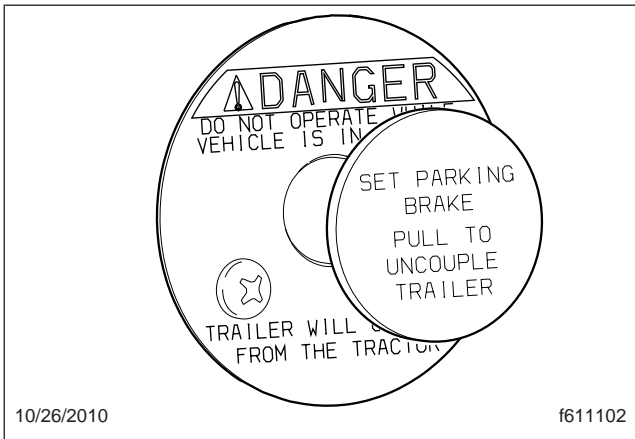

Fig. 10.10, Air-Actuated Kingpin Release Valve
An air-actuated kingpin release valve is optional with all fifth wheels. See Fig. 10.10.
2. Pull and hold the kingpin release valve until the kingpin lock mechanism opens and locks in place. See Fig. 10.10.